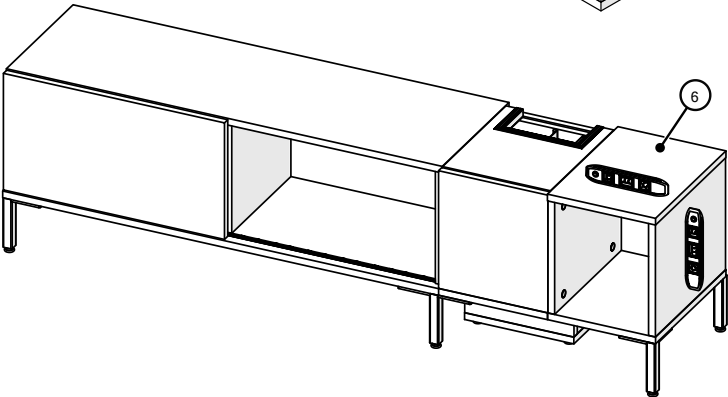

Figure 4
- 5. Level/align the end box from front to back and side to side by rotating the adjustable glide counterclockwise to extend the glide and raise the storage unit, (Figure 4).